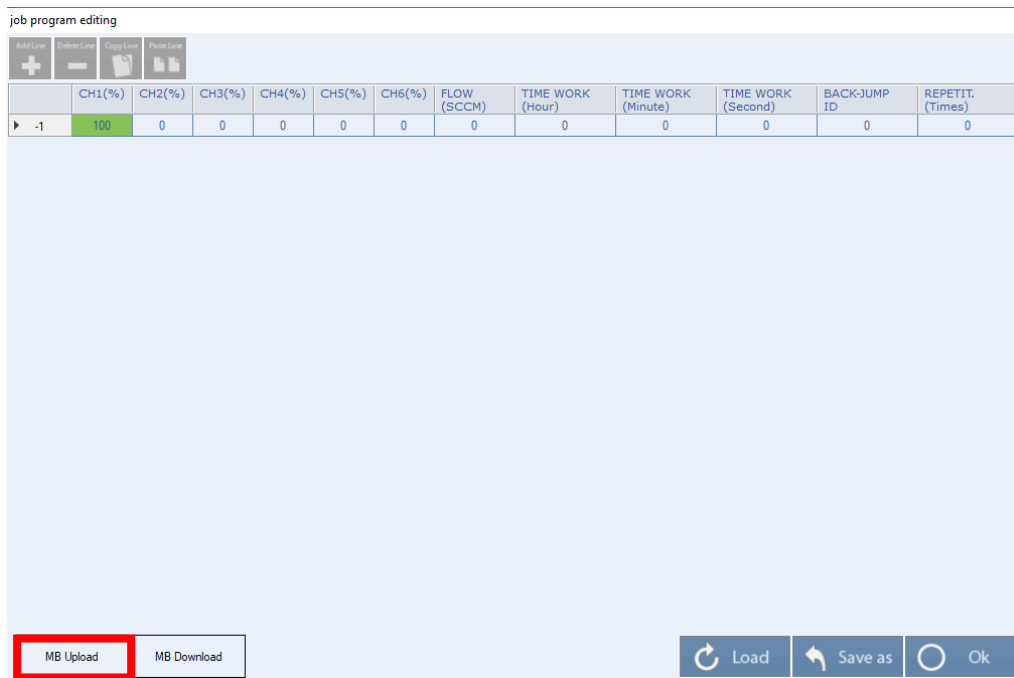

Figure 6-36
6. With the **“MB Upload”** button is possible to read the last program saved on the instrument. (Figure 6-36)